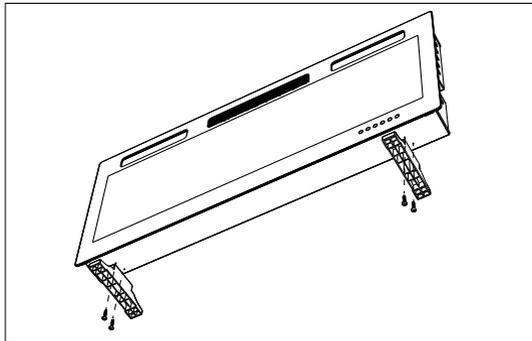

fig.5
4. Align the 2 diagonal bumps on the supporting foot with the holes in the bottom of the fireplace and screw the other 2 holes using ST4X12 screws.(fig.5)